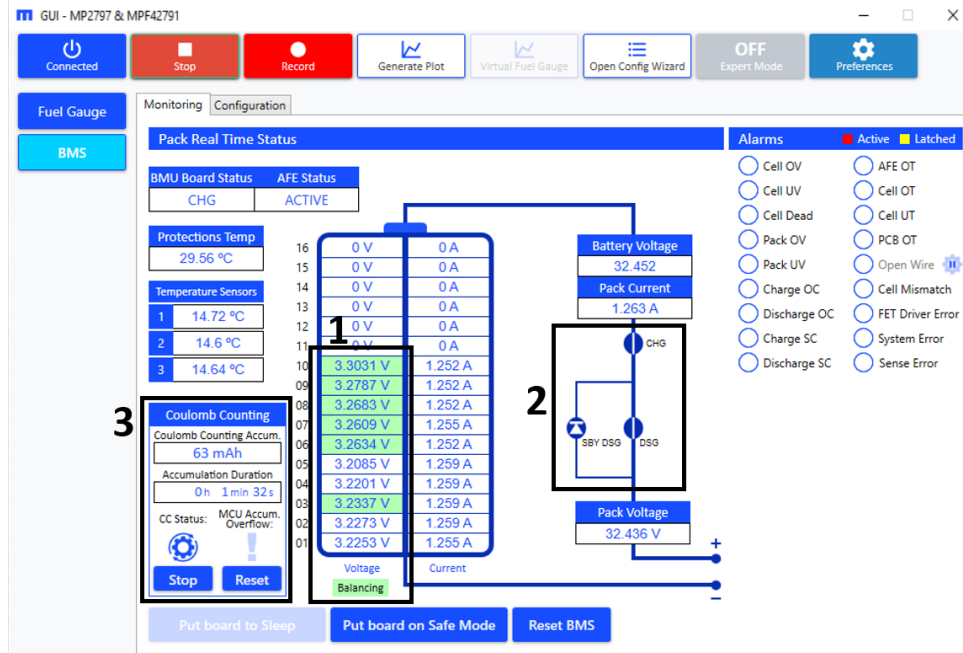
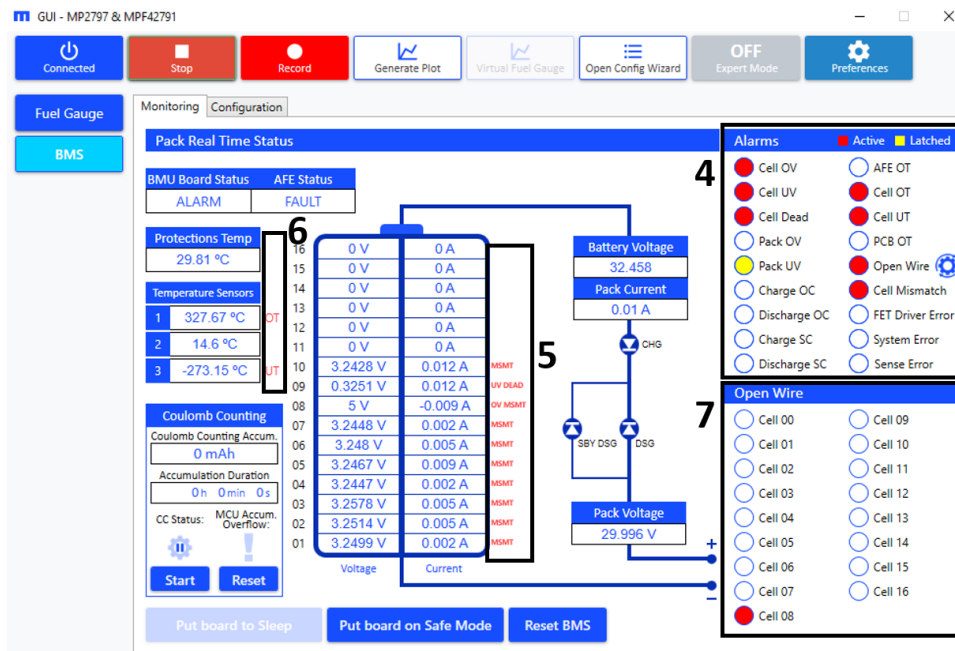

Figure 50: BMS Monitoring 1
Figure 51: BMS Monitoring 2
3. Figure 50 and Figure 51 on page 38 show the BMS Monitoring windows.
4. If a cell is balancing, the background of its displayed voltage is highlighted and a legend appears below the voltage title (see Figure 50).
5. The status of each protection FET is displayed. If the FET is displayed as a diode, this means that the FET is open; otherwise, the FET is closed (see Figure 50).
7. In the Alarms display, an alarm is displayed in red if the conditions to trigger the alarm are met. An alarm is displayed in yellow when the alarm's conditions are no longer met but the status is latched. An alarm is displayed in white if an alarm is neither active nor latched (see Figure 51 on page 38).
If a fault is disabled but the fault conditions are met, the fault is displayed but the BMS does not enter alarm mode (see Figure 50 and Figure 51 on page 38).
8. Each cell has a display that shows the real-time status for over-voltage (OV), under-voltage (UV), dead (DEAD), and mismatch (MSMT) conditions.
9. Each temperature sensor has a display showing the real-time status for over-temperature (OT) and under-temperature (UT) conditions.
11. To stop monitoring, click "Start". It should update to "Stop" (see Figure 50 on page 38).